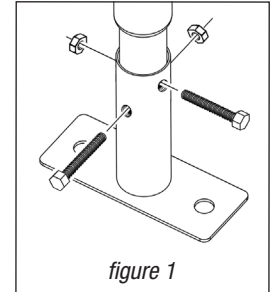

figure 1
- 7) Referring to *figure 1* (at right), install 3/8" diameter bolts and nuts through each bolt plate pipe sleeve and post.